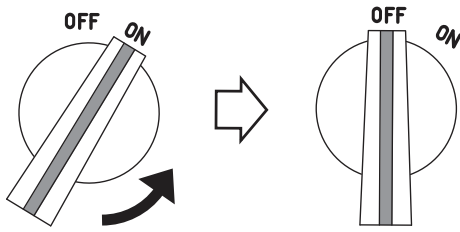

Figure 23. Engine ON/OFF Switch (OFF Position)
- Place the engine **ON/OFF** switch (Figure 23) in the **OFF** position.